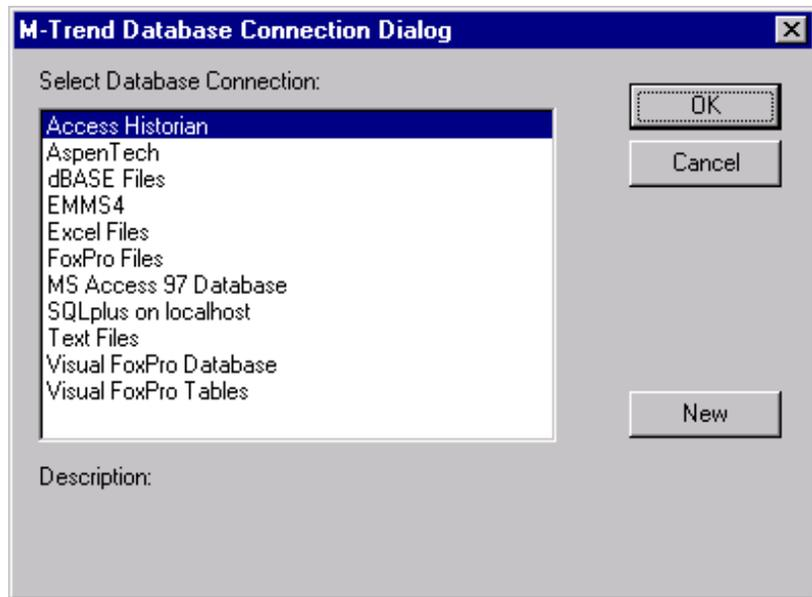

Figure 4-1: M-Trend Database Connection Dialog Screen
2. From the M-Trend Edit menu, click on Set Default Connection. The M-Trend Database Connection Dialog screen appears (Figure 4-1).
If you select a type of file rather than a defined database, for example Excel files in Figure 4-1, the ODBC Administrator program opens to request further information.